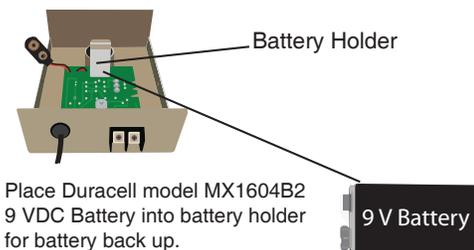

Figure 2 - Mounting
2. Determine mounting location for the VERSA'LARM. Make sure power outlet is within 6 feet of the VERSA'LARM. Make sure the outlet is on a separate circuit breaker from any other device and not on a switched receptacle to maintain power integrity. Mount the VERSA'LARM using two #8 x 1 1/4" self tapping screws(not included). Use #8 plastic anchor if mounting to sheet rock. See Figure 2
4. Use the included label identification kit or permanent marker/user supplied label to identify the alarm condition. Use the tick marks for alignment. See Figure 2.
5. Connect a UL listed switch (rated 9 VDC, 200 ma MINIMUM) such as a float switch, pressure switch, etc. to the two position terminal block on the VERSA'LARM. One wire per terminal. The alarm is activated by a closed switch. See Figure 2. Caution! - When installing the "signaling switch" refer to it's installation instructions for proper installation.
6. Plug in the power supply into a 120VAC, 50/60 HZ standard wall outlet. For UL applications, remove center screw on receptacle and place cord from wall mount transformer inside the plastic cord holder. Secure plastic cord holder to the receptacle by reinstalling screw to the center hole of receptacle. See Figure 2. For Canadian applications DO NOT INSTALL Plastic Cord Holder! The green "Normal" light should come on.